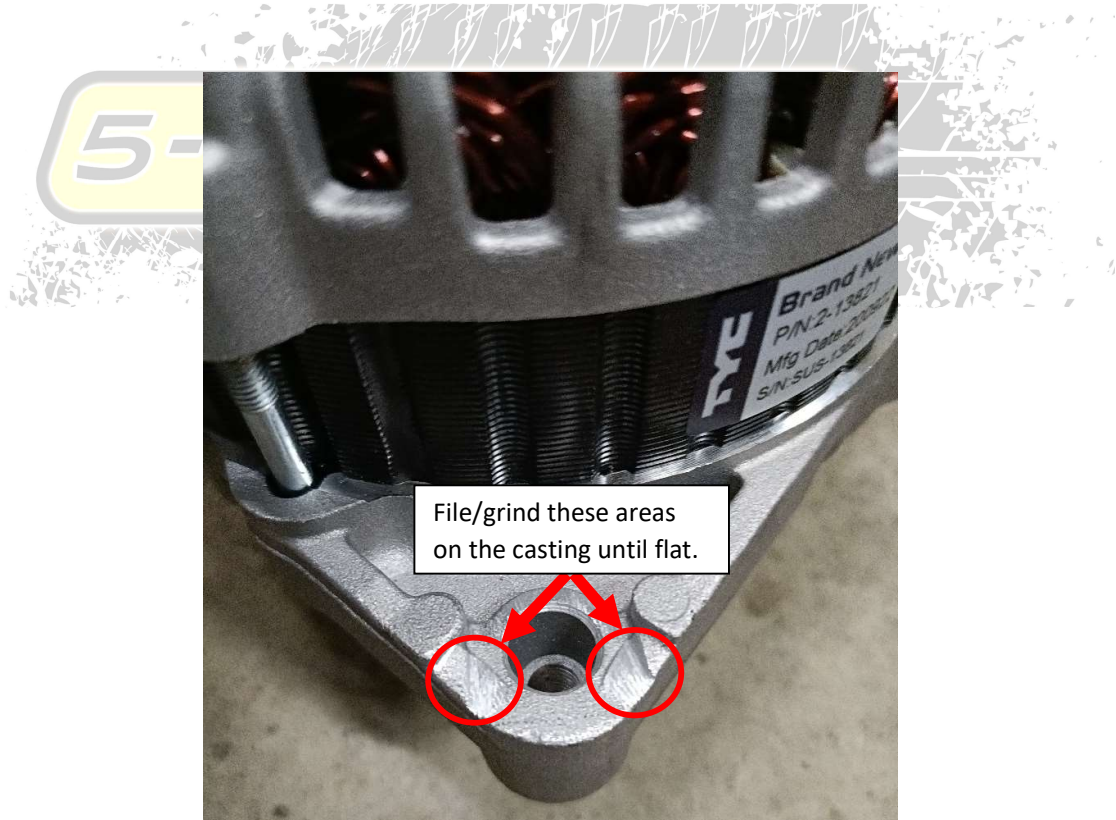

Figure 3 - Flatten the casting tab from the alternator top mounting lug backside
6. Flatten the casting tab from the alternator top mounting lug back side (figure 3).